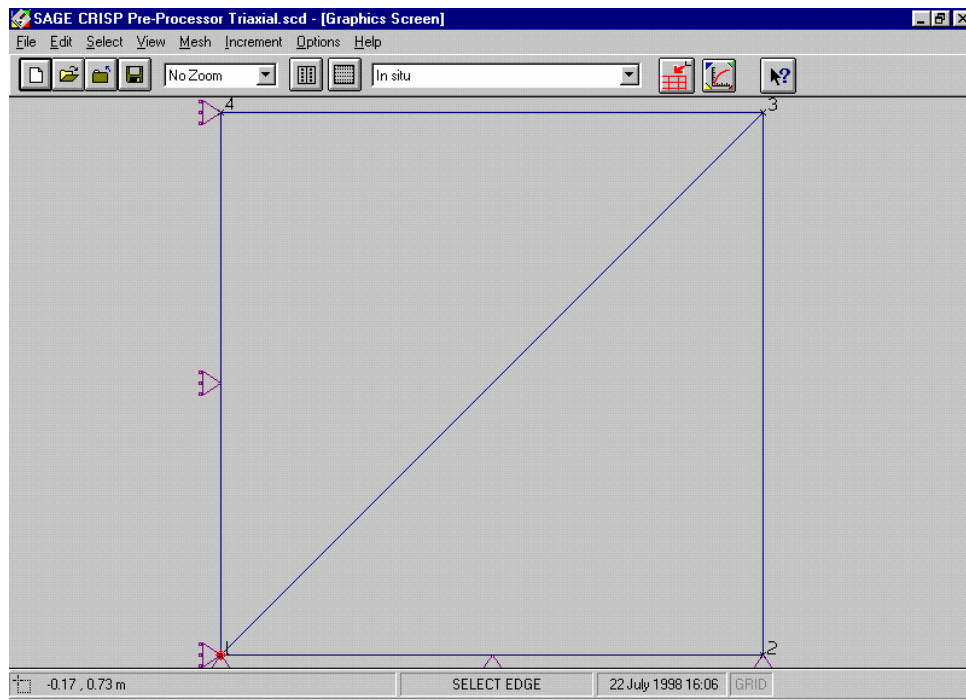

Figure 3-13: Displacement Fixities at the In Situ Stage
Step 10 The Graphics Window should now look similar to Figure 3-13.